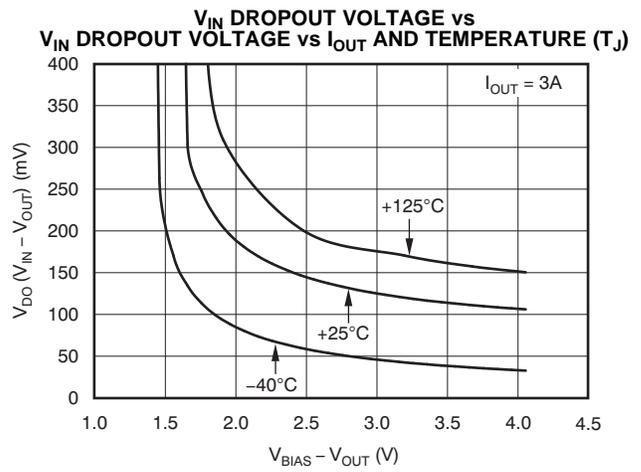

Figure 8.
(1) Adjustable devices tested at 0.8V; resistor tolerance is not taken into account.
(2) Dropout is defined as the voltage from V_{IN} to V_{OUT} when V_{OUT} is 3% below nominal.
(3) 3.25V is a test condition of this device and can be adjusted by referring to Figure 8.
(1) $3.25V$ is a test condition of this device and can be adjusted by referring to Figure 8.